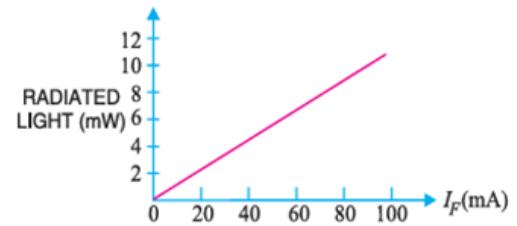

Figure 21
**Fig. 21** shows the graph between radiated light and the forward current of the LED. It is clear from the graph that the intensity of radiated light is directly proportional to the forward current of the LED